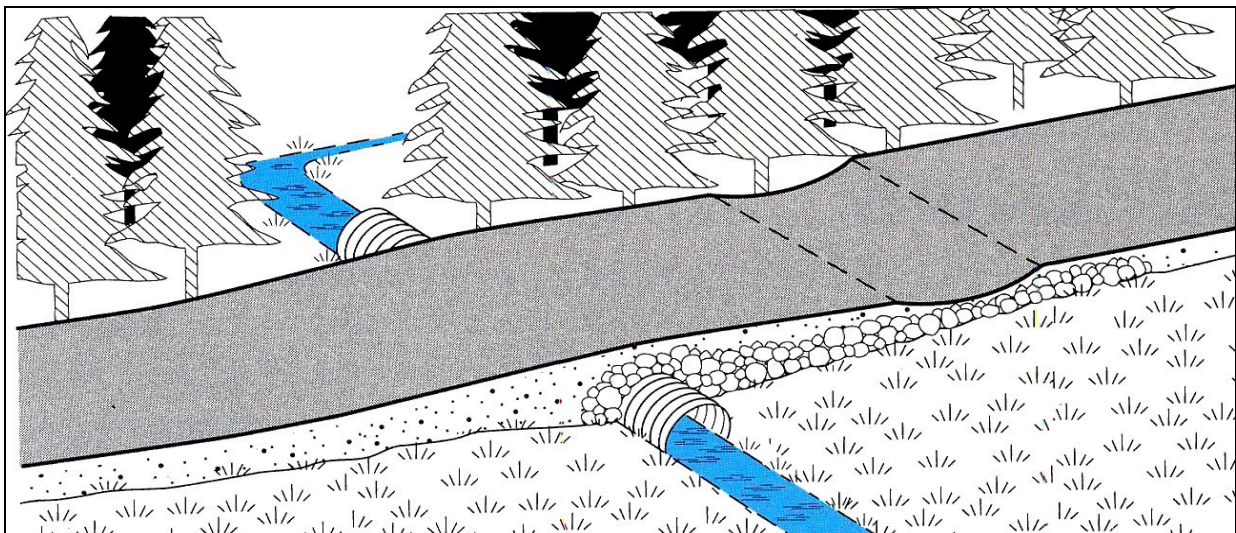

Figure 21. Proper Culvert Installation and Use on a Wetland Road.
- Place 24 inch diameter culverts with their bottom half in the upper 12 inches of the soil to handle subsurface flows and the top 12 inches to handle above ground flows every 300 feet or so (see Figure 21).
- ▶ In mineral soil wetlands, a culvert should be placed at the lowest elevation on the road centerline with additional culverts as needed to provide adequate cross drainage (see Figure 21 and 23).